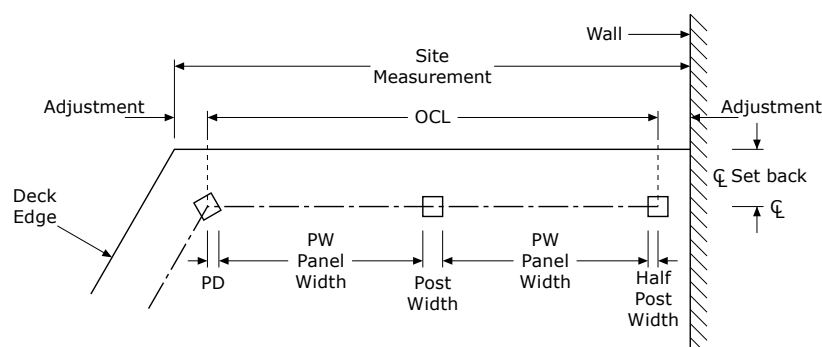

FIG. 1
The Overall Centreline (OCL) is the measurement of all balustrade runs in a continuous line, measured along the balustrade centreline (C) to each mitre, and to the centre of each end post (see Fig. 1 on Page 137)
From the site measurements, determine the OCL of the balustrade, taking into account the balustrade centreline position and any length adjustments necessary due to corners in the deck (see Fig. 1 on Page 137). Also take into account any clearances needed where the balustrade meets a wall face.
The Panel Width (PW) is a dimension between the faces of adjacent posts, measured along the rail centreline (see Fig. 1 on Page 137).
From the OCL, and the maximum post centres determined in step 1.3, calculate the PW of each panel (see Fig. 1 on Page 137), taking into account the post width and the "PD" Post Deduction.